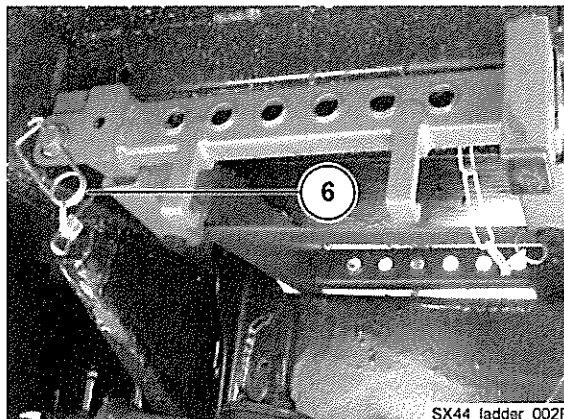

Fig 8 Secure the ladder
9.7 Refer to Fig 8. Make sure that the ladder is securely stowed by engaging and securing the retaining pin (6).